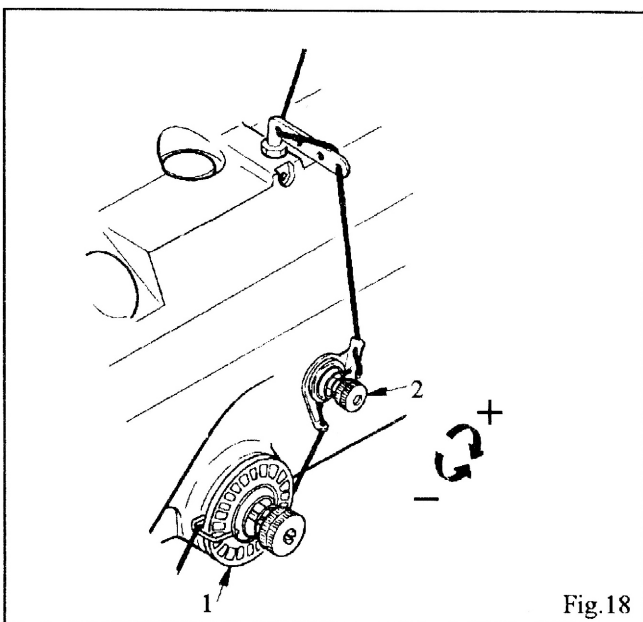

Fig.18
Pretension thumb nut (2) should be adjusted so that the needle thread will rotate the rotary tension wheel (1) without slippage. (Fig. 18)